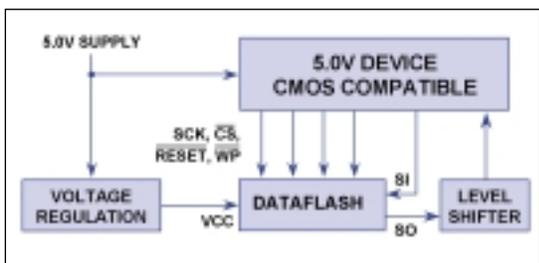

Figure 2: CMOS Compatible Interface Diagram
A problem arises when considering the Output drive levels provided by the Serial Output pin (SO) of a Dataflash when driving into a CMOS compatible interface. A standard 5V compatible CMOS input requires a V_{IH} input of 3.15V minimum, greater than the output drive level a Dataflash can provide under worst-case conditions. As the Output of the DataFlash is not capable of driving a 5V CMOS load directly a level shifter or alternative method of translating the DataFlash output logic levels to those compatible with the input device is required. Figure 2. Illustrates the requirement for a level shifter in the Serial Data Output signal of the Dataflash when driving a 5V compatible CMOS input.